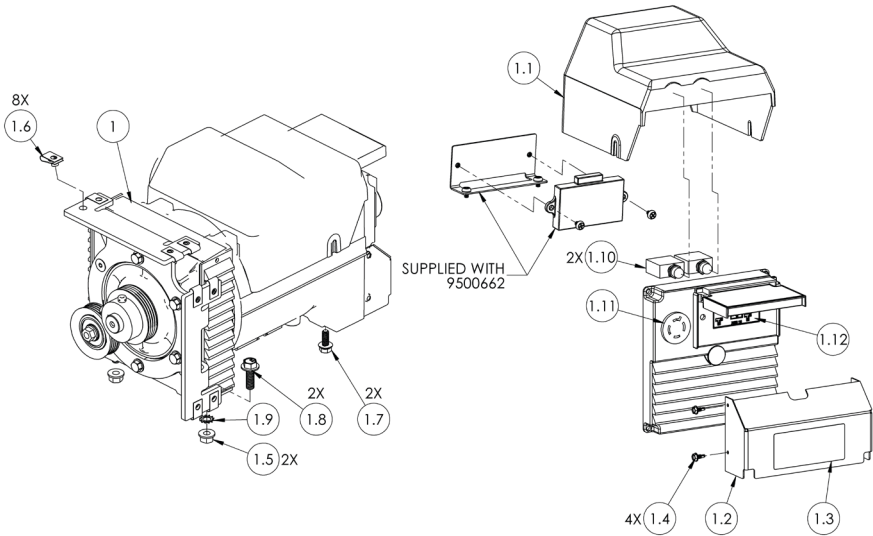

Figure 90 — Generator
2. Generator Assembly, 9500662 (Figure 90)